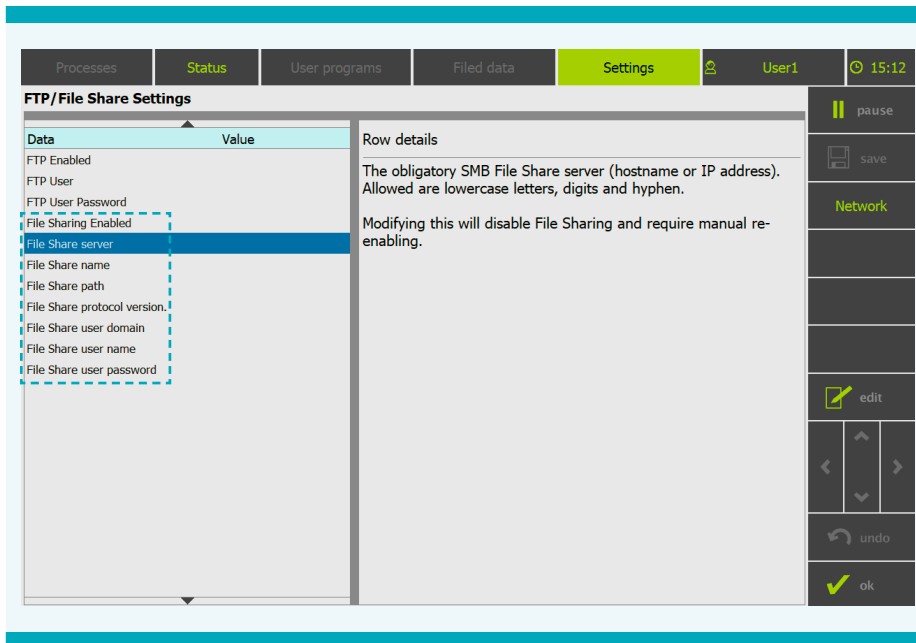

Figure 9.2: Parameters for file sharing
2. In <FTP/File Share Settings>, only the parameters in the blue box are relevant for file sharing (see Figure 9.2).